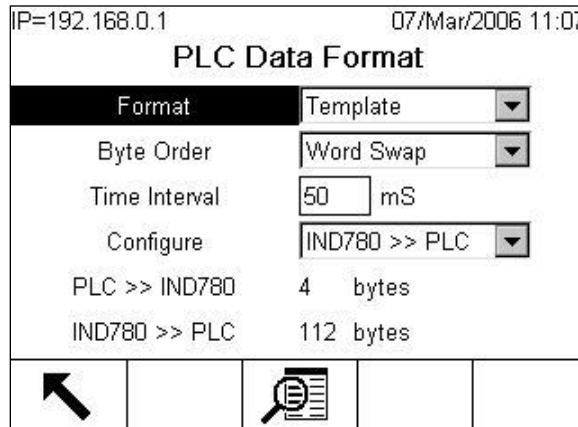

Figure 3-146: PLC Data Format Screen
5. The bottom of this screen (Figure 3-146) displays the number of bytes that will be sent by the IND780 and the number of bytes expected from the PLC.